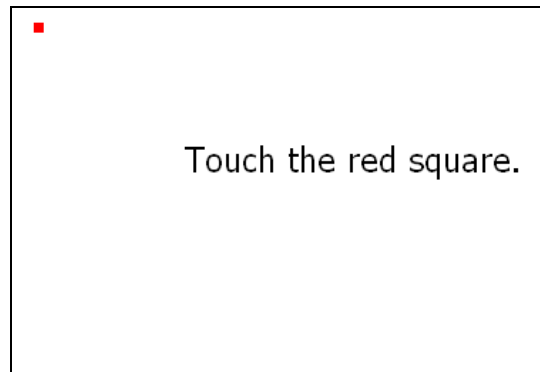

Figure 5-31: Calibration Screen
Step 9: The calibration screen in is shown. See **Figure 5-31**.